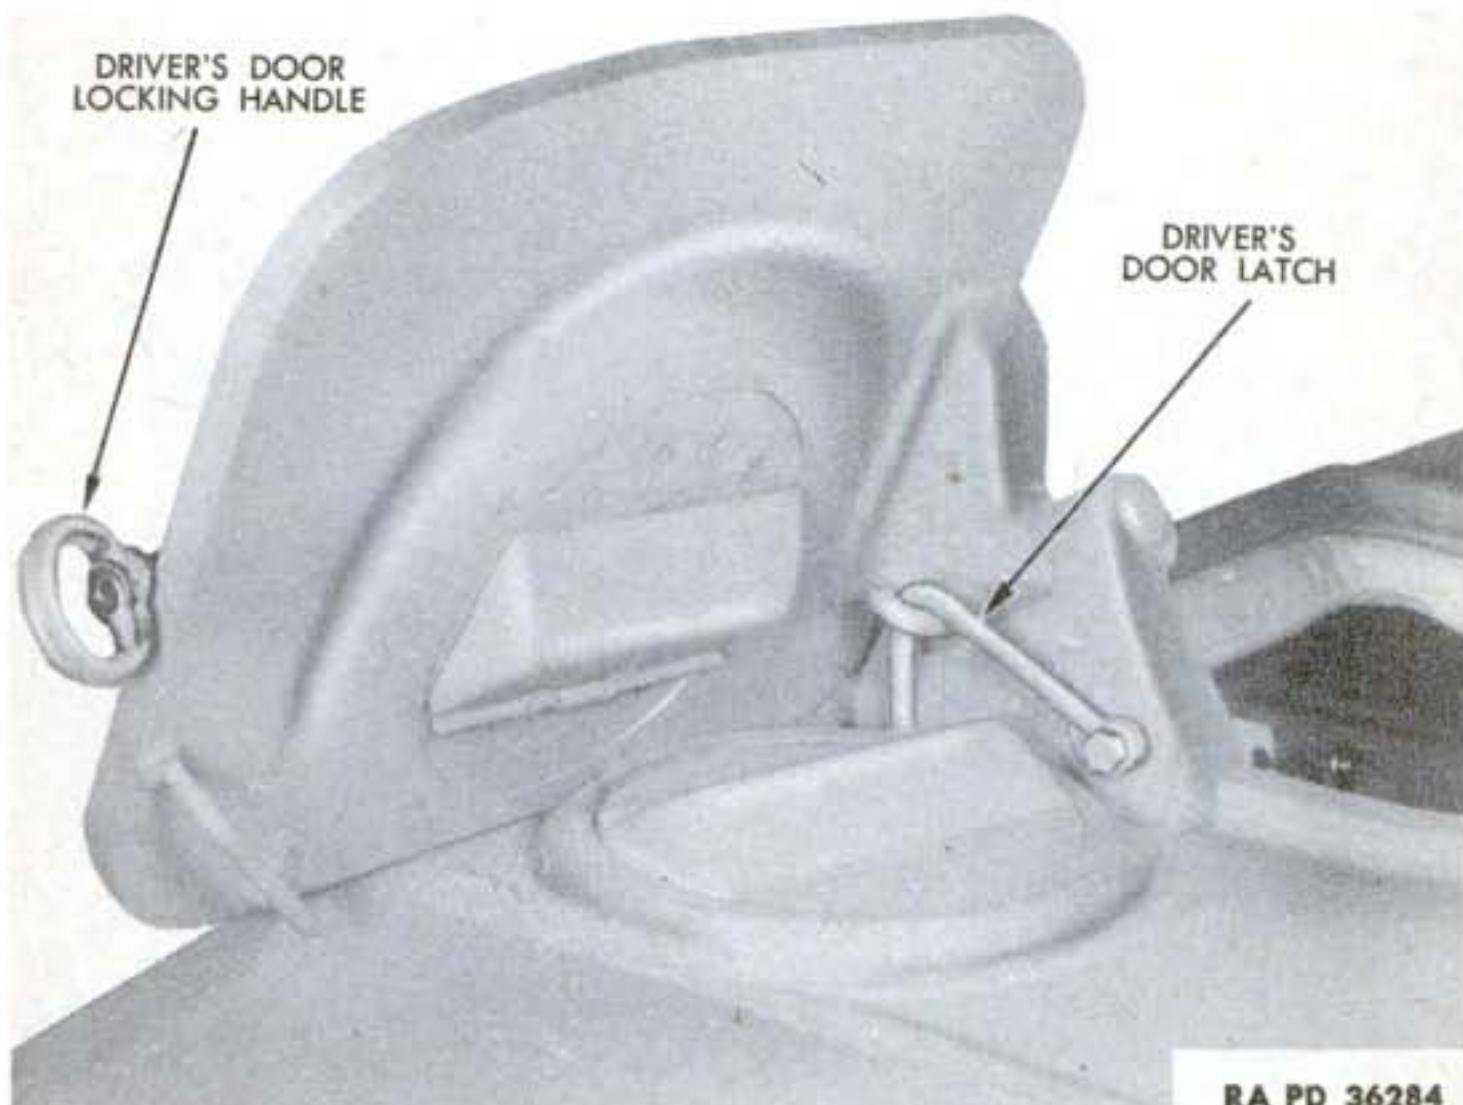

Figure 22—Driver's Door Locked Open
q. **Driver's and Assistant Driver's Doors.** Driver and assistant driver are protected by heavy doors which cover the openings directly above their seats. When driving vehicle with doors closed, they always must be locked by swinging the latch into the hasp and turning the screw handle up tightly. Always fasten hook to hold doors in open position to prevent accidental closing and possible personal injury (fig. 22). Do not traverse turret when the doors are open. Remove periscopes from doors before driving vehicle with doors open.